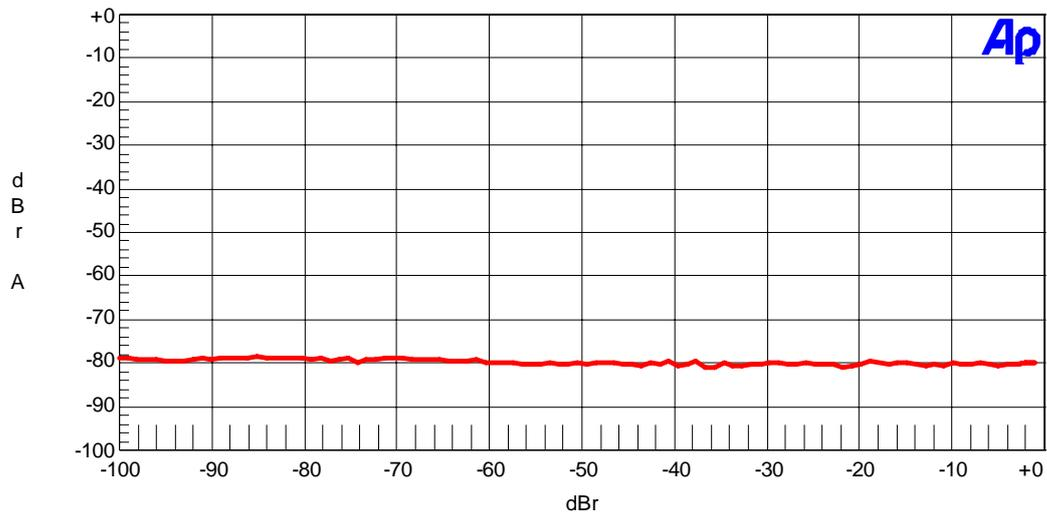

Figure. 16 Mono mode THD + N vs. Input Level (fin=1kHz)
- Figure. 16 : THD+N vs. Input Level (1kHz)